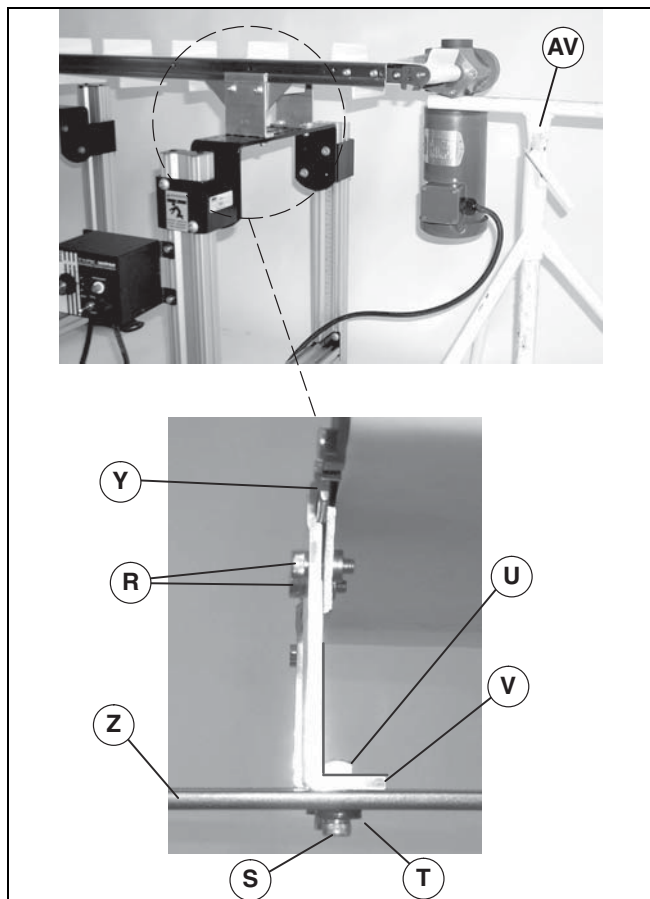

Figure 25
The weight of the gearmotor is all on one end of the conveyor which could cause it to tip off the stands when the mounting clamp plates are loosened. Be sure to provide support (Figure 25, item AV) underneath the gearmotor while changing the belt.
5. Place a temporary support (Figure 25, item AV) under gearmotor mounting package.
6. Loosen two mounting plate screws (Figure 25, item R). Remove two screws (S), hard washers (T) and square nuts (U). Slide stand mounting bracket (V) off stand (Z) and remove from conveyor (Y).
9. If a new belt will not be installed immediately, secure conveyor with mounting plate(s) and stand mounting bracket(s) (Figure 25, item V).
3. Install stand mounting bracket (Figure 25, item V) onto stand (Z) and conveyor (Y). Refer to “Mounting Brackets” on page 8.